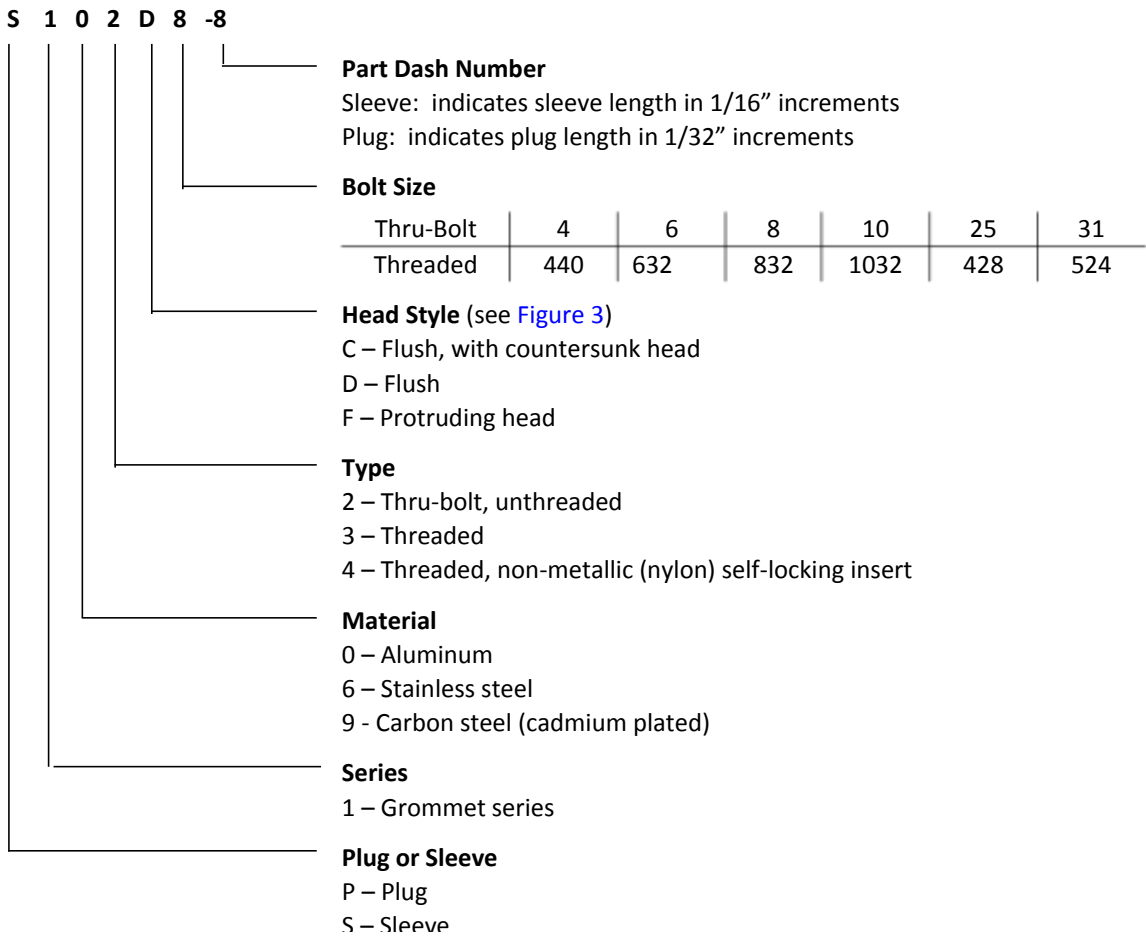
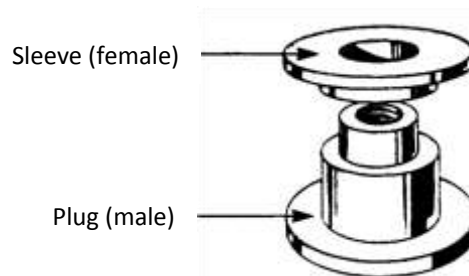

Figure 1. Delron Insert Part Number Breakdown
Figure 2. Delron Sandwich Panel Insert (General Description)
- 4.1.3 Delron sandwich panel inserts as specified on the engineering drawing. Refer to Figure 1 for a breakdown of Delron insert part numbers. Refer to Figure 2 for a general description of a Delron sandwich panel insert.